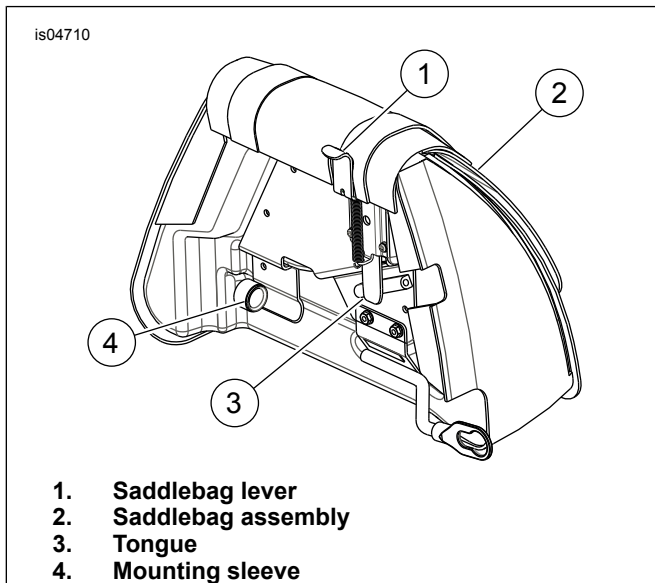

Figure 1. Saddlebag Assembly
- For FXCWC and FXCW Models without Touring System Strut Kit:** Install spacer (9), mini docking point (8), washer (7) and TORX screw (1) to the saddlebag support structure in the tapped hole. Tighten screw to 47–61 N·m (35–45 ft-lbs). **For FXCW Models with Touring System Strut Kit:** Install spacer (13) between frame and support strut (10), install spacer (9), mini docking point (8), washer (7) and TORX screw (1) to the saddlebag support structure. Tighten screw to 47–61 N·m (35–45 ft-lbs).
- See Figure 1. Install saddlebag assembly (2) to the saddlebag support structure by inserting the structure rod into the mounting sleeve (4) while lifting the saddlebag lever (1) and positioning the keyhole slot of the saddlebag support (figure 3 item 12) over the docking point (figure 3 item 8). Slide the saddlebag forward until the tongue (3) is centered in the striker keeper (figure 3 item 11), release the lever.
- Verify that the saddlebag support is seated in the docking point (8) groove and the tongue is fully engage in the striker keeper.
1. See Figure 1. Lift the saddlebag lever (1) while sliding the saddlebag assembly (2) rearward.